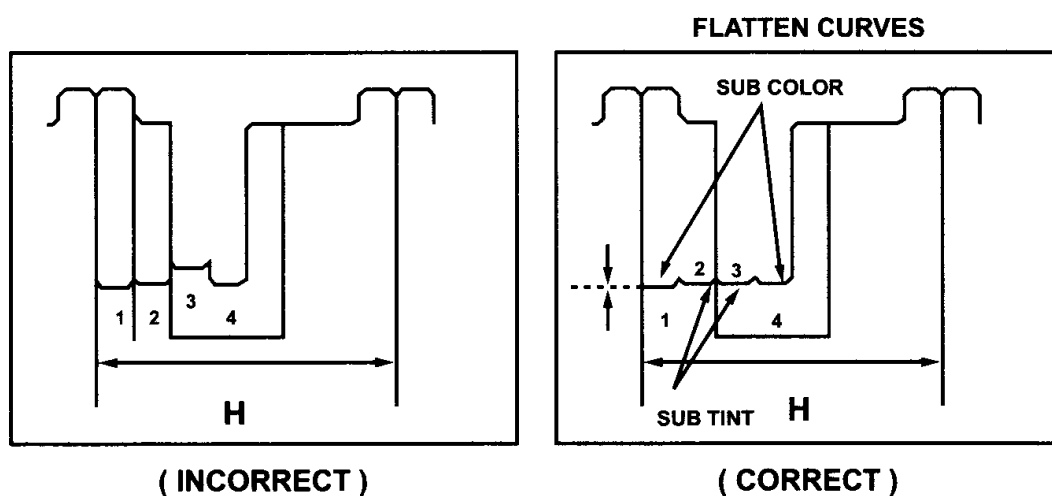

FIG. 2
4. Go to Adjustment Mode (1) by remote control.
5. Select SUB COLOR and SUB TINT from Adjustment Mode (1) menu screen.
6. Adjust SUB COLOR and SUB TINT level (by using + or - button on remote control) so that waveform 1 & 4 (for SUB COLOR) and waveform 2 & 3 (for SUB TINT) is the same as shown in Figure 2.